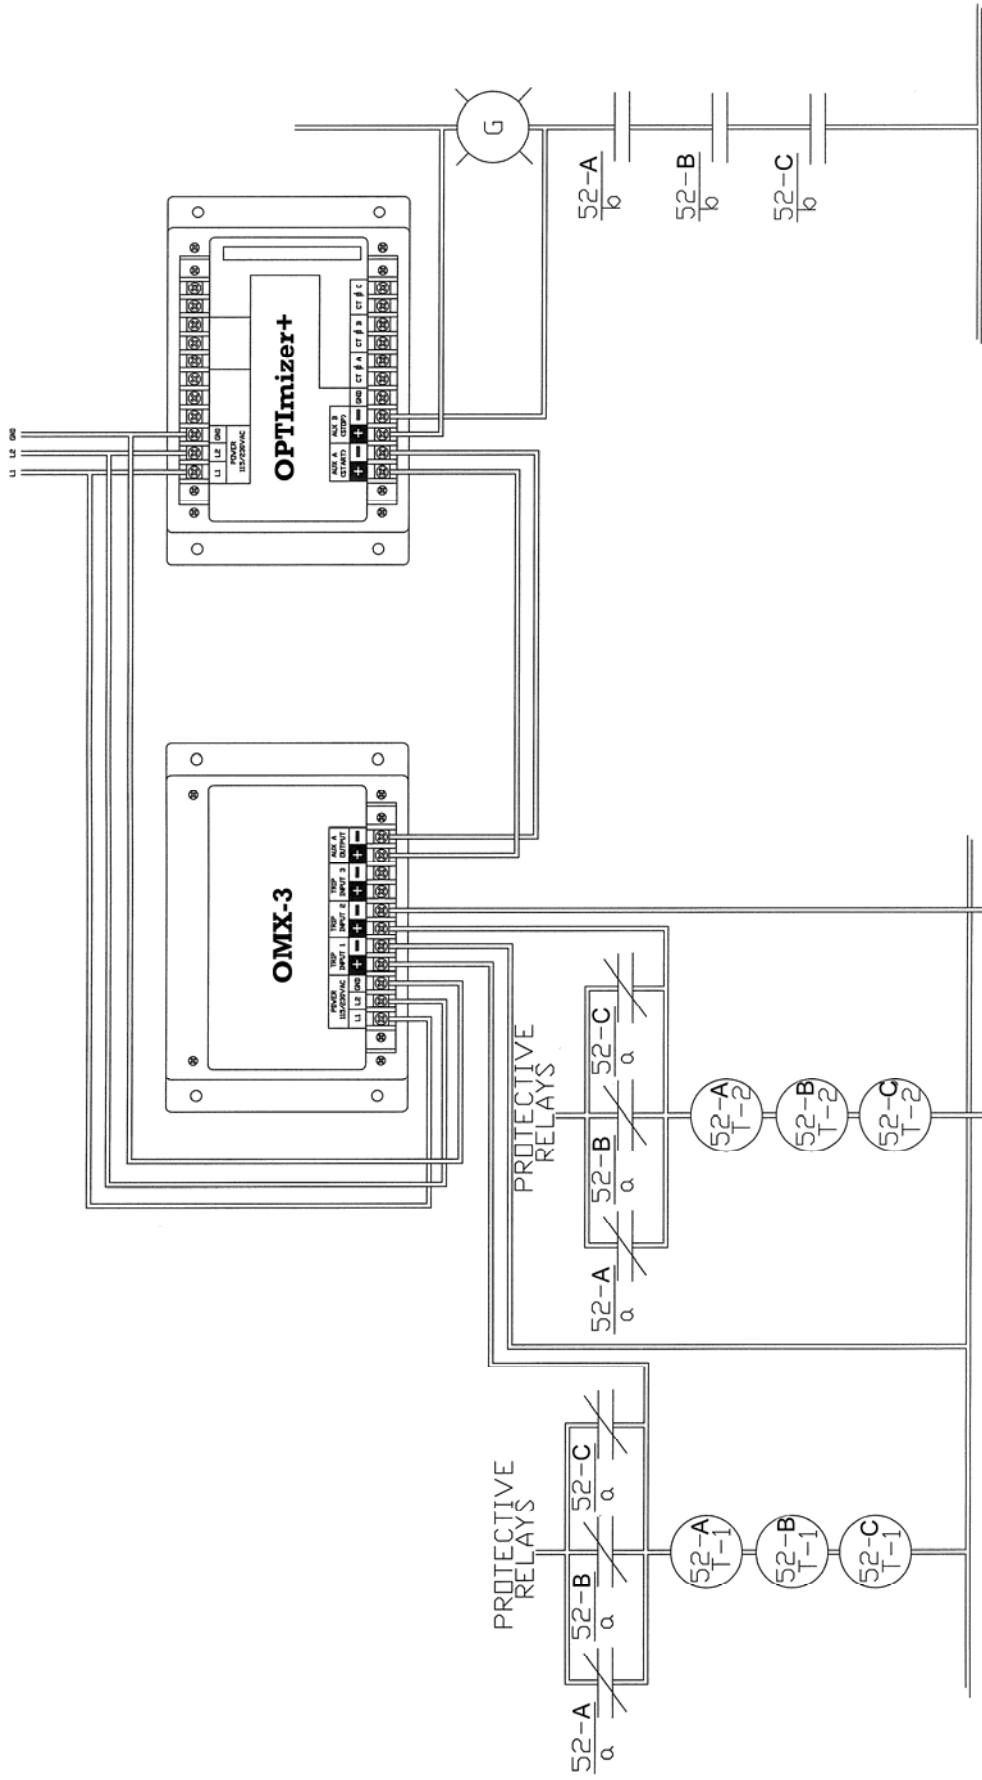

Figure 1.3 Field Wiring Diagram: Individual Pole Mechanisms, Series-Ganged, with Redundant Trip Circuits
2. **Individual Pole Mechanisms, Series-Ganged, with Redundant Trip Circuits (Figure 1.3) – Short**